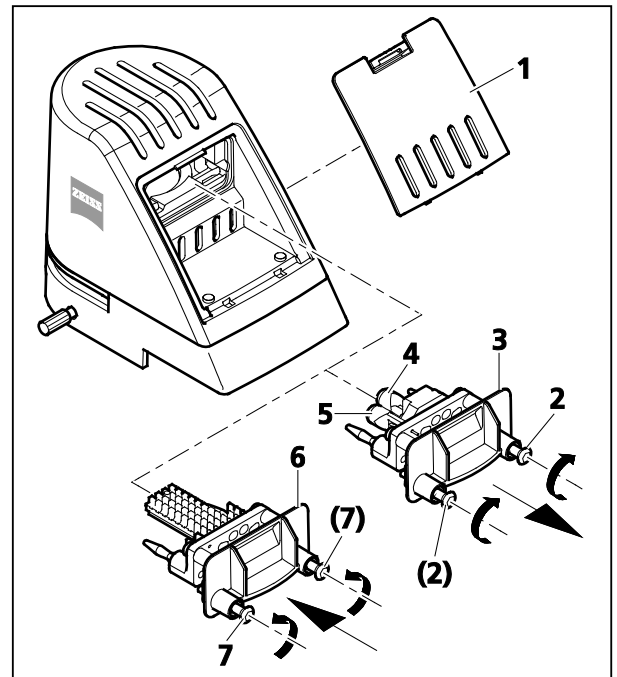

Fig. 36 Replacing the halogen bulb 6 V / 30 W or the transmitted-light illuminator with LED
- Press down the clamping lug of the cover (Fig. 36/1) and remove the cover from the stand.
- Loosen both fastening screws (Fig. 36/2) of the transmitted-light illuminator (e.g. transmitted-light illuminator with halogen bulb, Fig. 36/3). In doing so, slightly press the screws against the spring and turn them by 90°: Turn left and right screw clockwise.
- Pull the transmitted-light illuminator (Fig. 36/3) out of the stand.
- Pull the halogen bulb (Fig. 36/4) out of the lamp carrier and insert the new halogen bulb. Do not touch the new lamp with bare fingers as this will decrease the life of the bulb.
A spare bulb (Fig. 36/5) can be placed in the transmitted-light illuminator with halogen bulb and remain there during the operation.
- Push the transmitted-light illuminator (e.g. transmitted-light illuminator with LED, Fig. 36/6) into the stand and fasten it with the two screws (Fig. 36/7). In doing so, slightly press the screws against the spring and turn them by 90°: Turn right and left screw counterclockwise.
- Attach the cover (Fig. 36/1) again to the stand and let it snap into place.